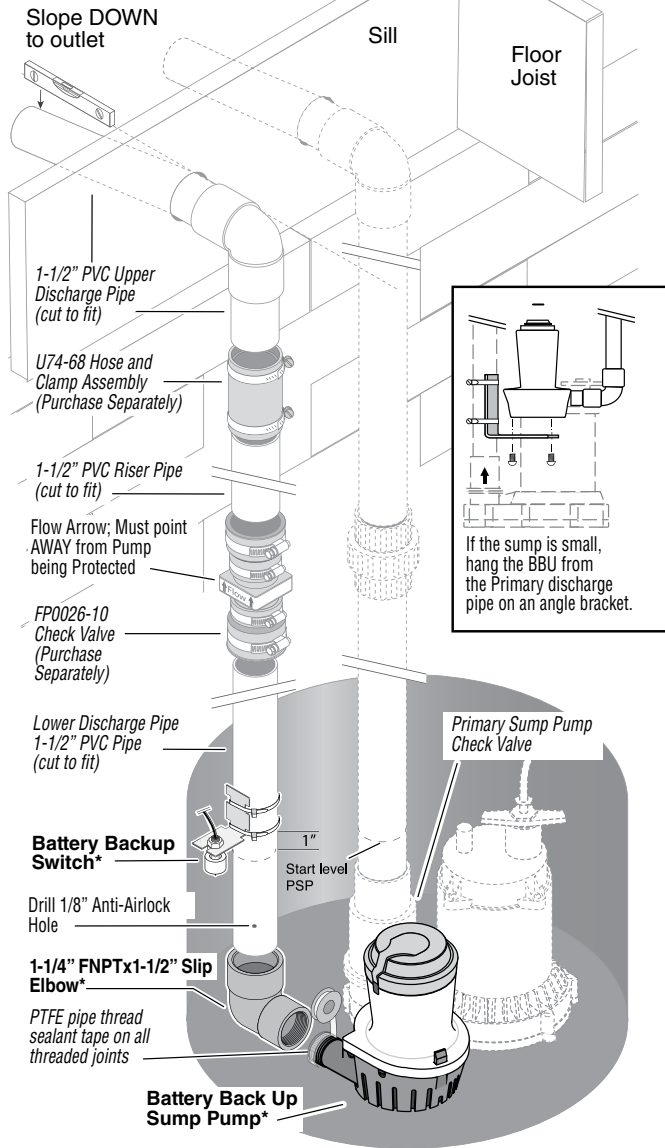

Figure 2: Typical installation with separate discharge pipes.
NOTICE: Study pages 4-6 to determine which installation method will be best for you. The "Separate Discharge" (Figure 2), installation is recommended.
3. If the sump is too small to allow both pumps to sit on the bottom of the sump, install an angle bracket on the primary sump pump's discharge pipe with stainless steel hose clamps. Mount the backup pump on the angle bracket. See Figure 2, "Separate Discharge".
4. Cut a piece of 1-1/2" PVC pipe to reach from the backup pump discharge elbow to about one (1) foot above the basement floor. This is the lower discharge pipe.